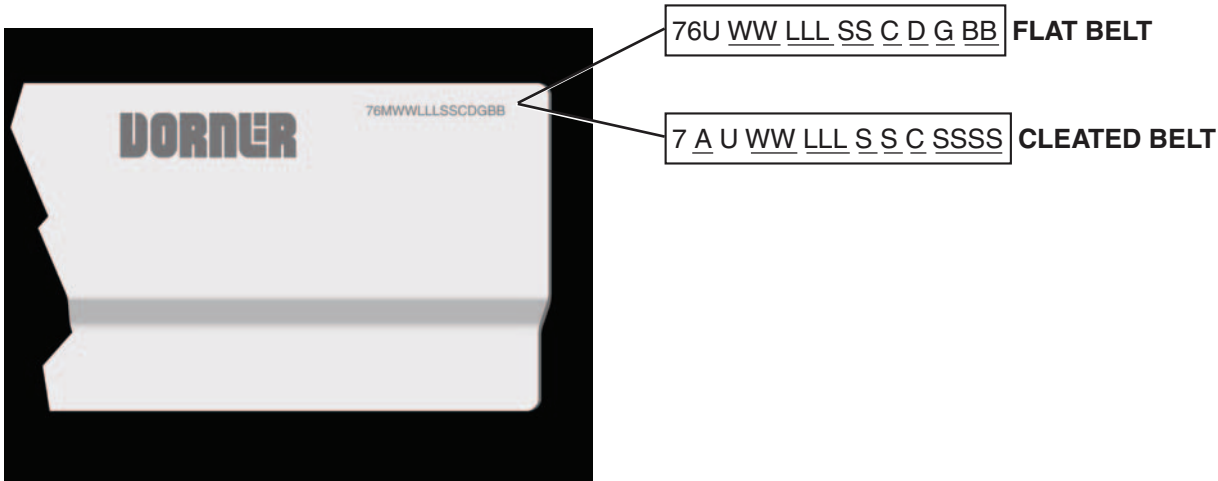

Figure 99
Refer to model number on the conveyor frame (Figure 99). From the model number determine the conveyor width (WW), length (LLL), drive/tail types (A) and belt type (BB). Use data to configure belt part number as indicated below. *Add “V” for v-guided belts.
Refer to model number on the conveyor frame (Figure 99). From the model number determine the conveyor width (WW), length (LLL), cleat type (C) and cleat spacing (SSSS). Use data to configure belt part number as indicated below. *Add “V” for v-guided belts.